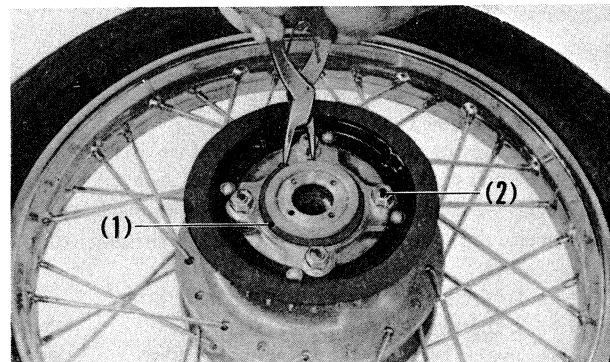

Fig. 5-44 (1) 69 mm snap ring
(2) Bearing retainer
3. Install the final driven sprocket to the wheel hub squarely as shown in Fig. 5-44.